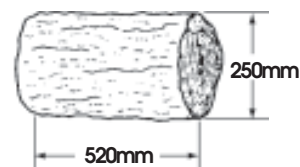

Fig. 2
- **NEVER** try to split logs larger than those indicated in Fig. 2. This could be dangerous and may damage the machine.
Figure 2 shows the maximum log size that can be split. Please note that the diameter of the log is indicative: i.e. A small log can be difficult to split if it has knots or a particularly tough fibre. On the other hand, if the wood has regular fibres, it is not difficult to split logs with diameters greater than that shown in Figure 2. It is important **NOT** to persist if the log does not split on the first attempt, as the pump may be damaged by the oil overheating. This could occur when the machine is made to work under maximum stress in an attempt to split excessively fibrous, knotty wood or wet, green wood. Do not attempt to split a log for longer than 5 seconds.